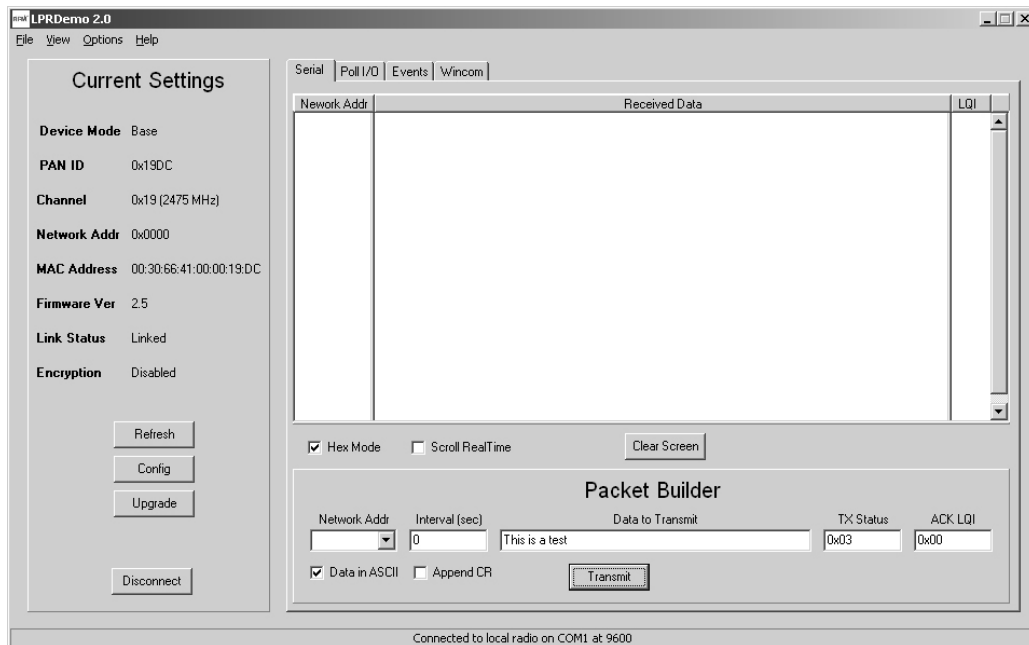

Figure 5
- At this point the program will collect and display data from the Base under *Current Settings* on the left side of the main window, as shown in Figure 5.